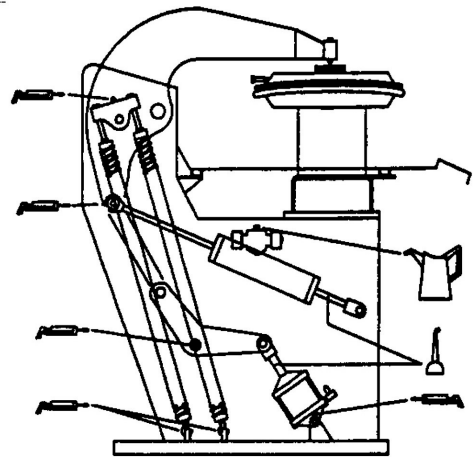

Figure 4: Points of lubrication
- Once a month the suction pipes of the cylinders and the suspension points of the springs (see figure 4) have to be oiled.
- Refill the oil cylinder (11) regularly with hydraulic oil (ISO) SHF 22. Never use ordinary lubricating oil.